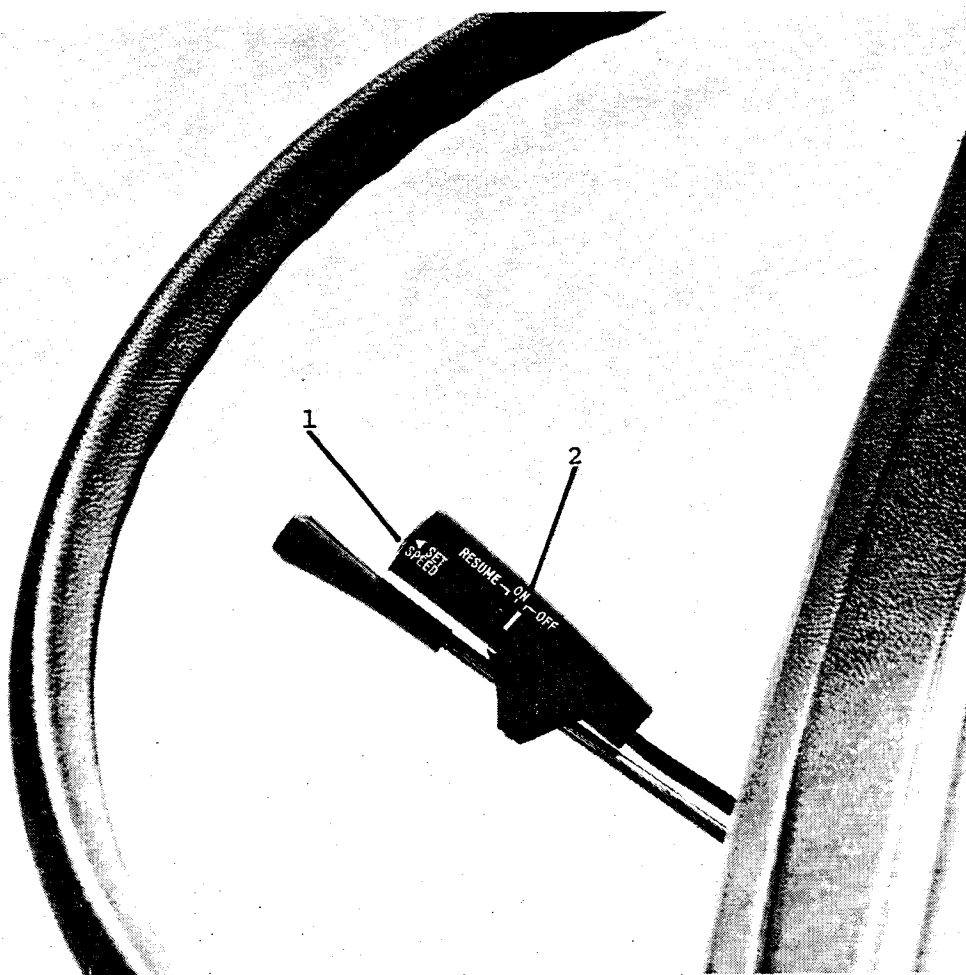

Figure 4-2.
1. Transmission Selector Lever (2): Refer to Getting Underway, Section X for instructions on using transmission.
2. Fuel Tank Selector Switch (3): This switch allows operating on Main or Auxiliary Fuel Tank (if installed).
3. Ignition Switch (5): The four positions of this switch are ACCESSORY, OFF, ON and START. ACCESSORY position allows operation of electrical accessories with engine off. START position engages the starter motor. ON position allows full operation of automotive electrical system and activates instrumentation.
4. Engine Compartment Cover (6): This cover may be removed to gain access to engine. Transmission fluid dip stick is under cover.
6. Cruise Control (See Figure 4-2): This control mounted on the turn signal lever will maintain coach speed without constant pressure on the accelerator. Operation of this component is as follows: